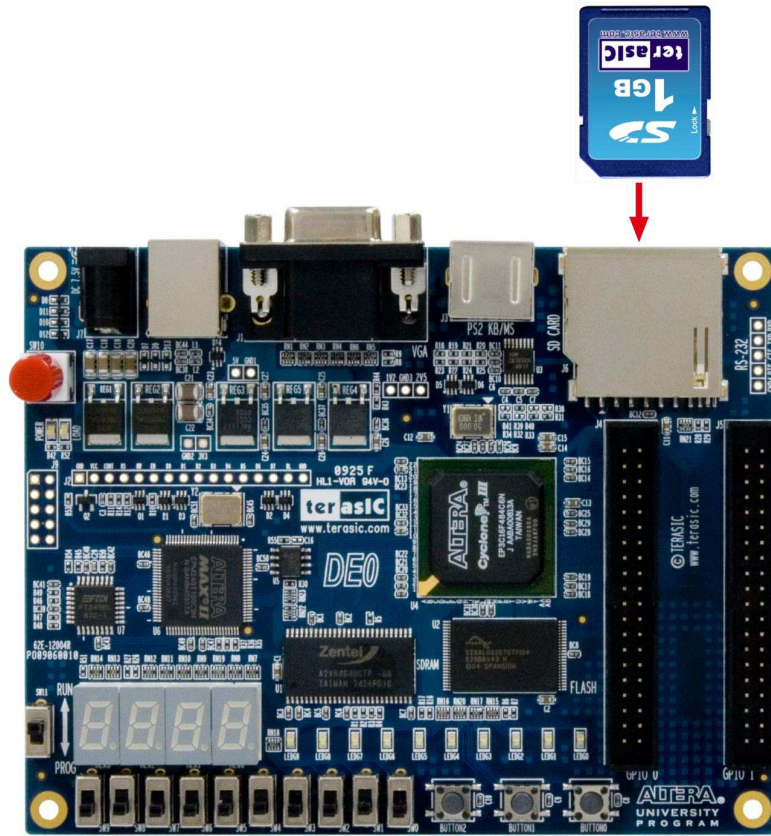

Figure 5.3. Insert SD Card for the SD-Card Demonstration
- Insert the SD card into the SD Card socket of DE0, as shown in Figure 5.3.